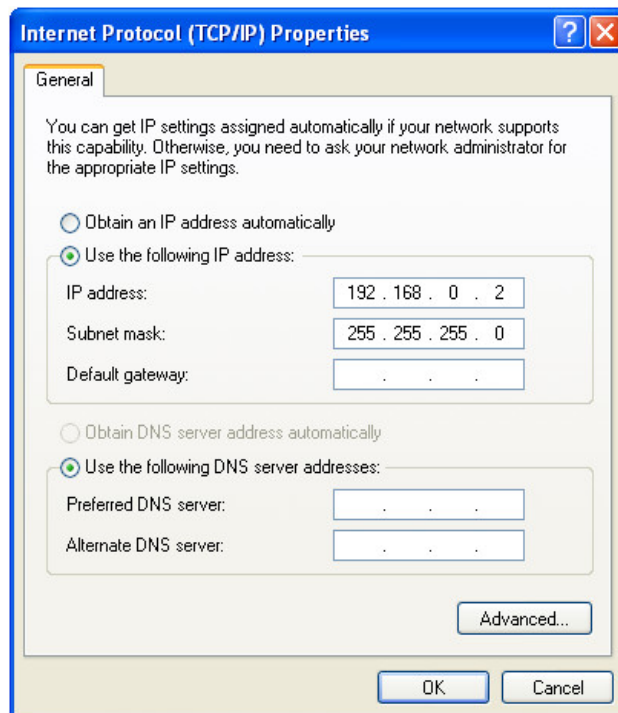

Figure B.2 – TCP/IP properties window in Windows OS
- 3) Select "Internet Protocol (TCP/IP)" from the list of connection components in the open window (for OS Windows 7/8/10 – "Internet Protocol version 4 (TCP/IPv4)". Make sure that the component is enabled (flagged in the list). Click "Properties". The TCP/IP properties window opens (see Fig. B.2).